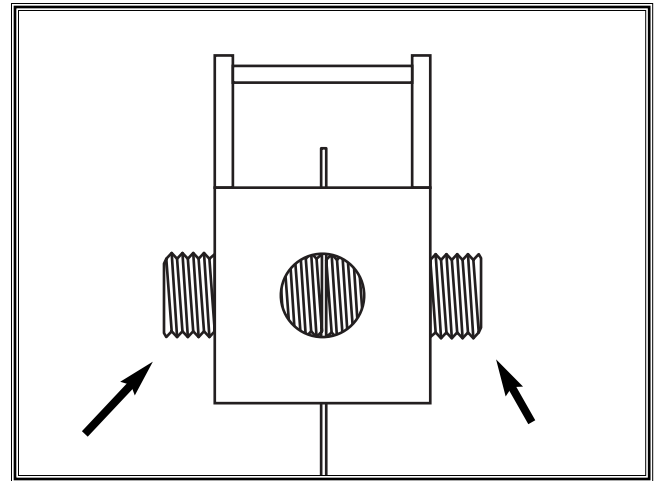

Figure 5. Blade adapter setscrews.
3. Loosen the setscrews (**Figure 5**) on the blade adapters to allow the saw blade ends to slide through the mounting holes. *The setscrews can be threaded into either set of holes depending on whether side cutting or straight cutting is desired.*